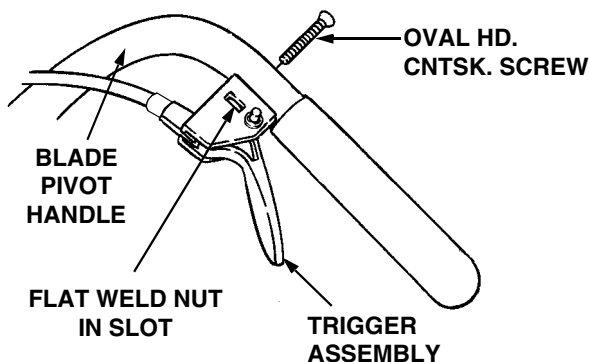

Figure 8
5. While holding the flat weld nut (17) in position, place the cable trigger housing under the blade pivot handle (6) and fasten with the oval hd. cntsk. screw (18). See Figure 8.